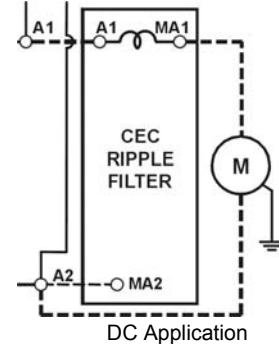

Figure 3-6
- 1) The first is to the motor that consists of current conductors wired from the drive output through the choke (if req.) to the motor and a ground wire to the grounding lug at the drive side of the controller. [See Figure 3-6.]